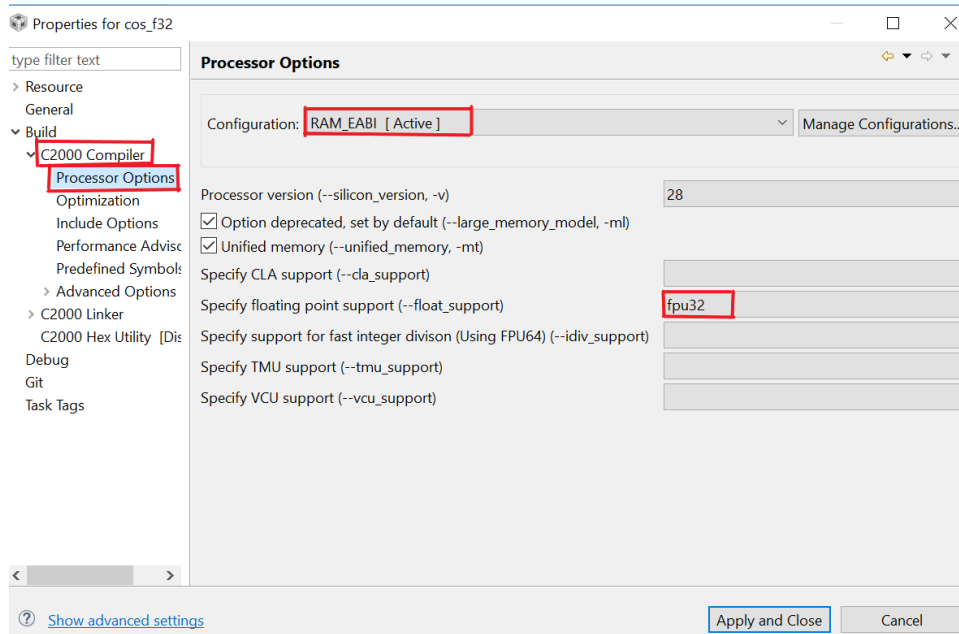

Figure 4.6: Turning on FPU32 support
- For the single precision library set the **-float_support** option to **fpu32** in the **Runtime Model Options**. The user may optionally turn on **tmu_support**; none of the library functions use TMU instructions but the library is built with TMU support turned on (Figure 4.6).